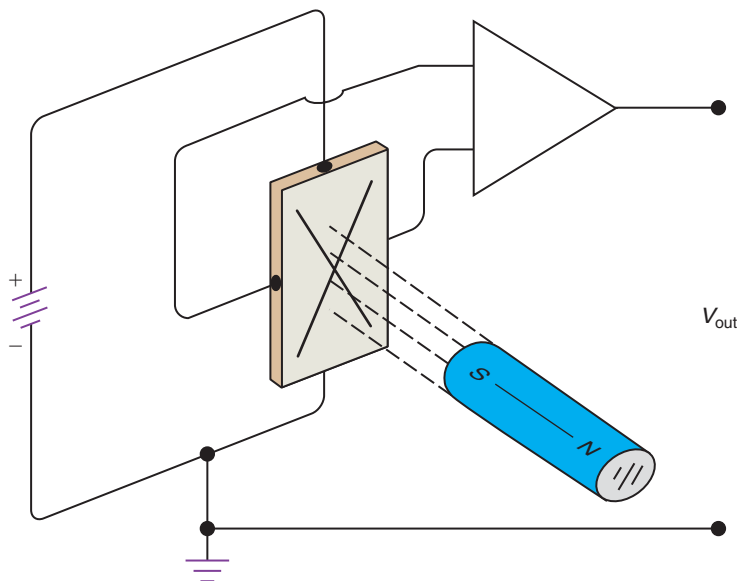

Fig. 5-47 Art for chapter review questions 5-64, 5-65, and 5-69.
- 5-64. Refer to Fig. 5-47. The sections of this Hall-effect device are the Hall-effect sensor, the bias battery and a _____ (dc amplifier, multiplexer).
- 5-65. Refer to Fig. 5-47. Moving the magnet closer to the Hall-effect sensor increases the strength of the magnet field which causes the output voltage to _____ (decrease, increase).
- 5-69. Refer to Fig. 5-47. The output of this device is _____ (analog, digital) in nature.